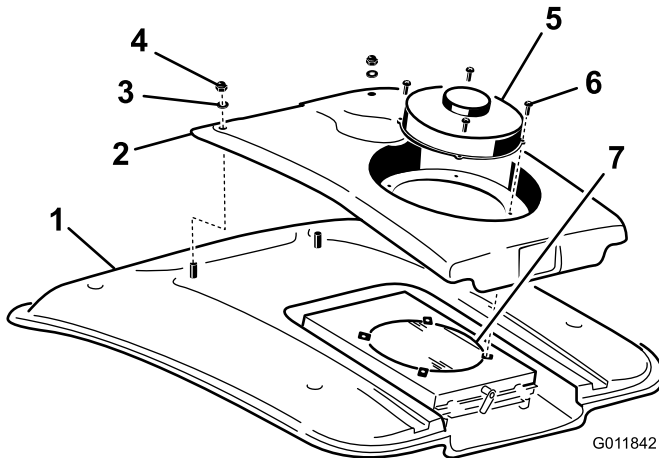

Figure 89
2. Remove the (4) screws securing the fan and the condenser cover to the fan mount (Figure 89).
4. Remove the two nuts and washers securing the front of the condenser cover to the cab roof (Figure 89).
8. Clean the air conditioning condenser thoroughly with compressed air (Figure 89).